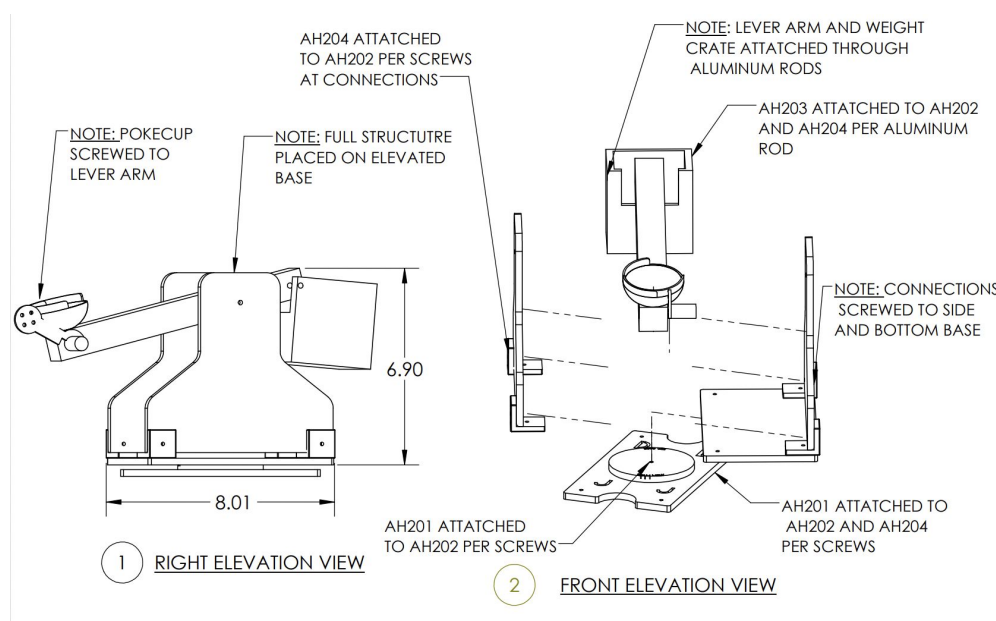
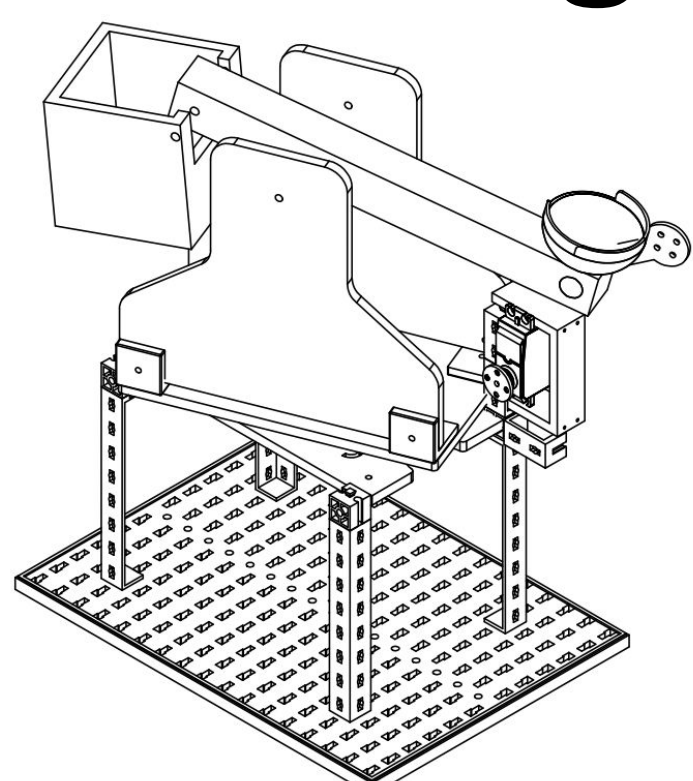

Fig. 1 Exploded View
Fig. 2 Isometric View of Total Assembly
- In Fig. 1 there are 4 total subassemblies that are connected to each other to create our total assembly which is then placed onto fischertechnik parts to elevate the structure as shown in Fig. 2.